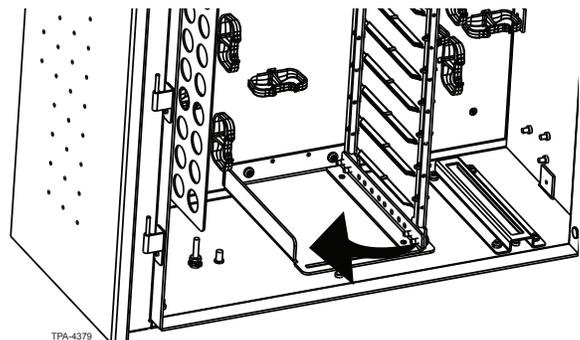

Figure 3
Step 1: To ease access for adapter panel installation, lift up and slide the long edge of the tiltable 19-in frame to the left (Figure 3).